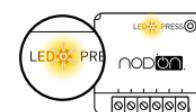

Figure 3
- Wire the Zigbee Multifunction Relay Switch with metering, in parallel to the push-button following the diagram figure 3.